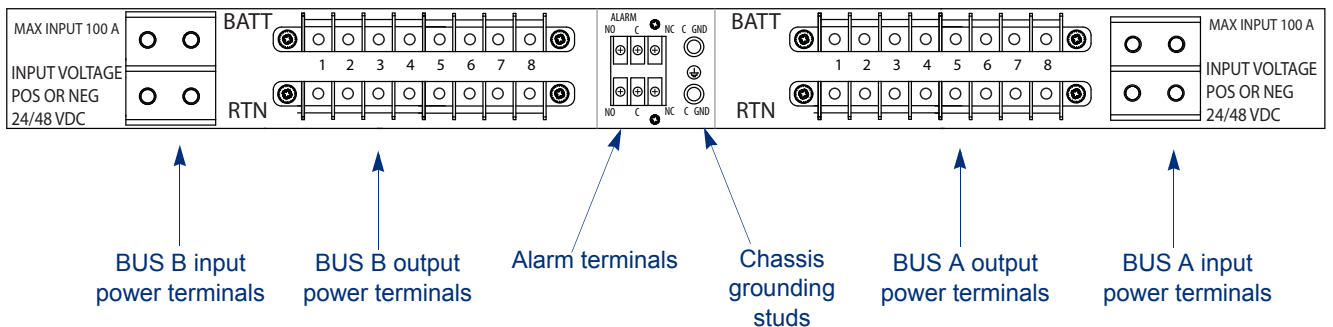
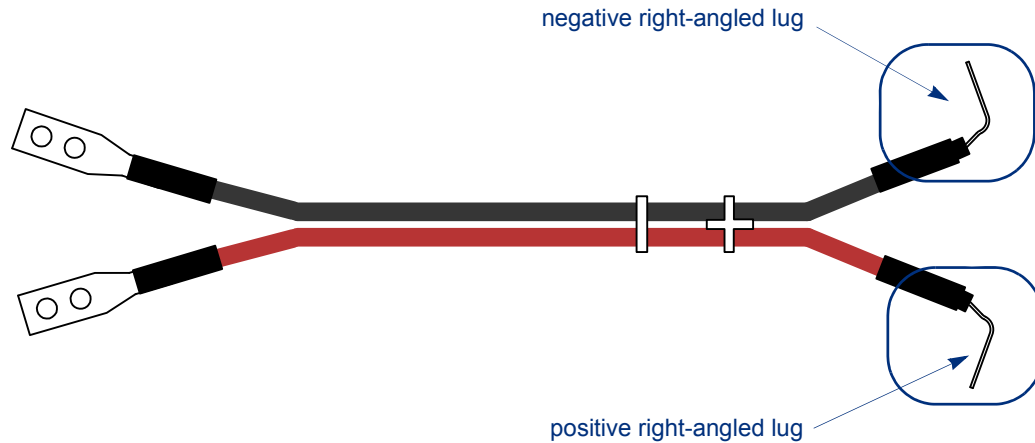

Figure 8. Circuit breaker, rear view
Figure 16. #4 AWG wire set, right-angled lugs
3. From the rear of the circuit breaker, remove the plastic guard and rear covers from the output and input power terminal blocks (Figure 8).
4. From the rear of the circuit breaker, use a 7/16 socket wrench to remove the nuts with captive lock washers from the both sides of the input power terminal terminal blocks (Figure 8).
5. Unscrew and remove the terminal screws from the output power terminals (Figure 8). Use caution to not lose the screws.
13. Replace the plastic guard on the output terminal block of the circuit breaker (Figure 8).
8. Using one set of the other end of the #4 AWG wiring pairs, place the negative (black) right-angled lug (Figure 16) over the top pair of input DC connectors labeled BATT on BUS-A of the circuit breaker (Figure 8).
9. From the same set of #4 AWG wires, place the positive (red) right-angled lug (Figure 16) over the bottom pair of input DC connectors labeled RTN on BUS-A of the circuit breaker (Figure 8).
10. Using the second set of the other end of the #4 AWG wiring pairs, place the negative (black) right-angled lug over the top pair of input DC connectors labeled BATT on BUS-B of the circuit breaker (Figure 8).
11. From the same set of #4 AWG wires, place the positive (red) right-angled lug over the bottom pair of input DC connectors labeled RTN on BUS-B of the circuit breaker (Figure 8).
14. Replace the rear covers to the input terminal blocks of BUS-A and BUS-B on the circuit breaker (Figure 8).